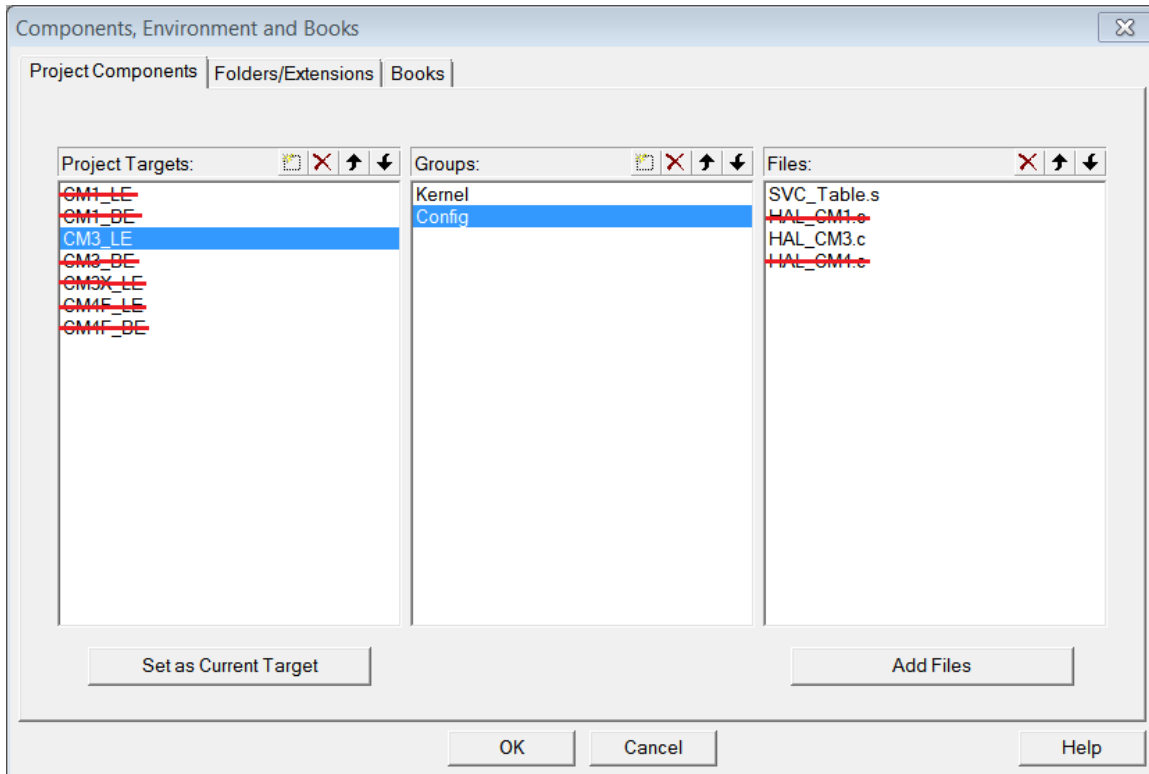

Figure 1.17: RTX Library Project Components for Cortex-M3
4. Open `RTX_Lib_CM.uvproj` under your `RTX_CM3` directory that you newly created. Right click the `CM3_LE` target under the project window to bring up the menu and click “Manage Components”. You will only need the `CM3_LE` target, which supports NXP1768 on MCB1700 boards. Remove all other targets in the Project Targets window. You also need to remove the `HAL_CM1.c` and `HAL_CM4.c` files in the Files window (see Figure 1.17).